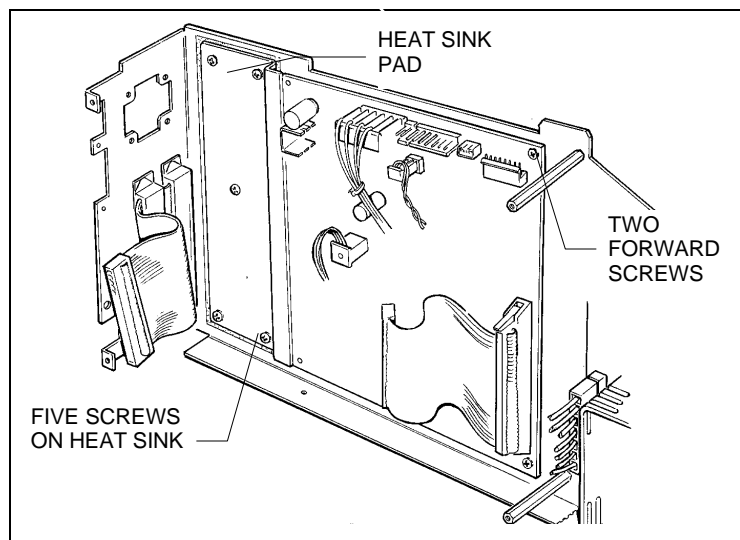

Figure 6-20. Removing the analog pc board assembly
5. Disconnect the remaining cables on the analog board. (These cables all originate at the low voltage power supply. (Figure 6-20)